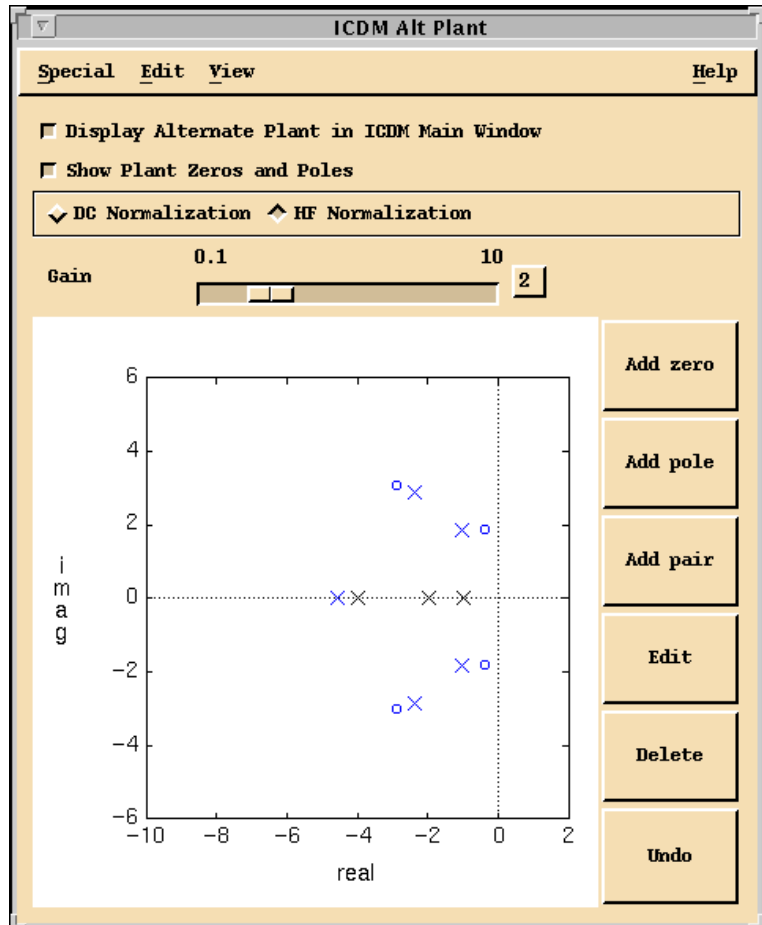

Figure 10-1. Alternate Plant Window
The Alternate Plant window is shown in Figure 10-1. From top to bottom, it consists of:
- A toggle button that is used to display the plant poles and zeros in the plot (refer to Figure 10-1).
- Two toggle buttons that select DC or high frequency normalization (refer to Figure 10-1).